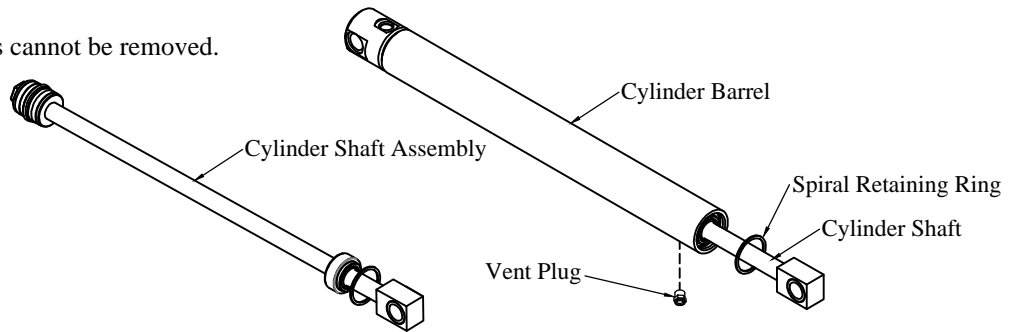

Figure 7: Cylinder disassembly.
2. **Remove** the cylinder vent plug (Figure 7).
3. **Remove** the spiral retaining ring (Figure 7).